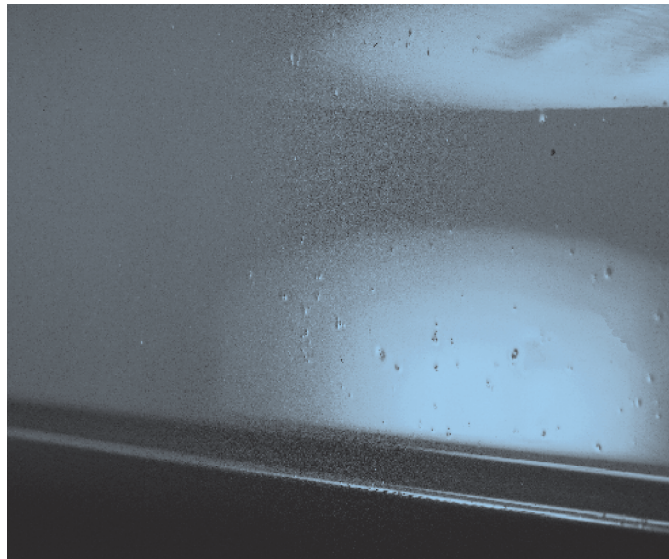

Figure 2 — Fish eye defects
**Crater:** A crater (Figure 2) is a depression in the surface finish and includes defects, commonly known as fish eyes. Craters can be caused by resin gel particles, dirt, filter material and poorly dissolved or dispersed additives.